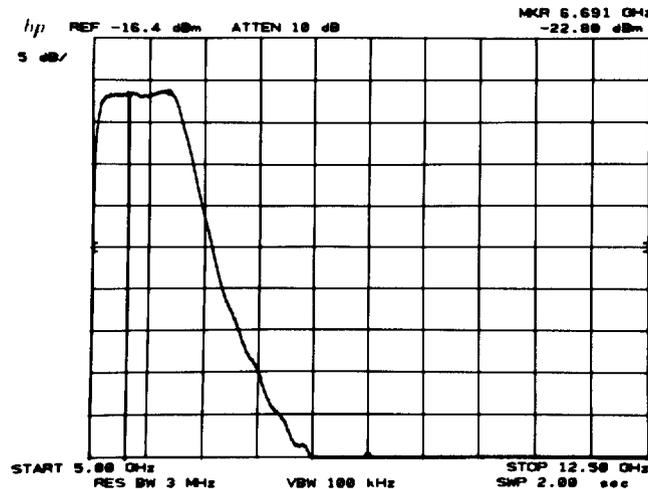

FIGURE 72. TYPICAL DISPLAY SHOWING ROLL-OFF POINT
58. As LB1 is adjusted clockwise, the amplitude of the signal trace will drop, beginning at the right edge of the graticule. Refer to Figure 72.
86. Adjust LB2 to position the roll-off point at the position of the marker. Do not change the marker position. Refer to Figure 72 for typical display.